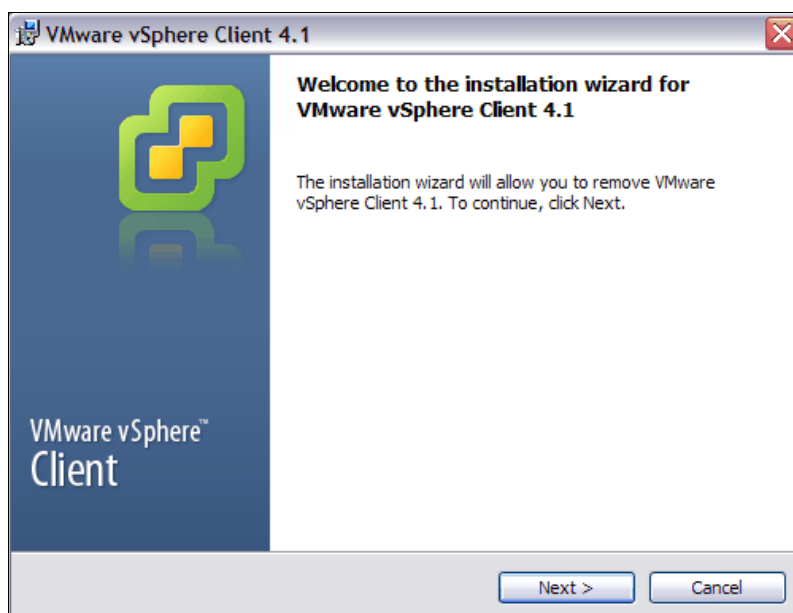

Figure 22-41 ESX Client Installation - Welcome panel
5. In the Welcome window (Figure 22-41), click **Next**.